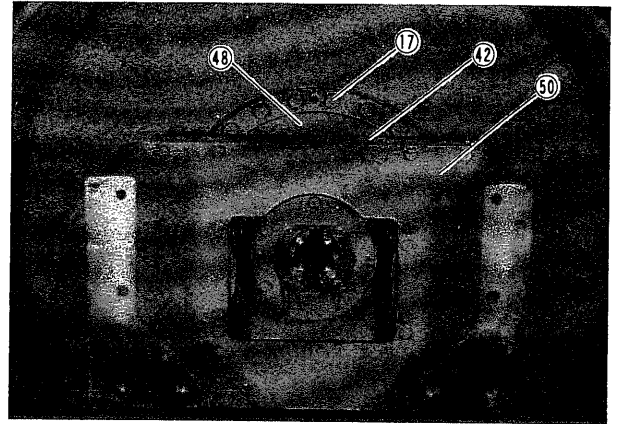

Fig. 93
- (1) Mount right-hand axle shaft assembly in roll. Apply liquid packing on fitting surfaces between axle shaft and roll. (Fig. 93)